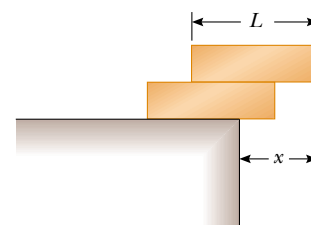

Figure P12.22
22. Two identical, uniform bricks of length L are placed in a stack over the edge of a horizontal surface such that the maximum possible overhang without falling is achieved, as shown in Figure P12.22. Find the distance x .